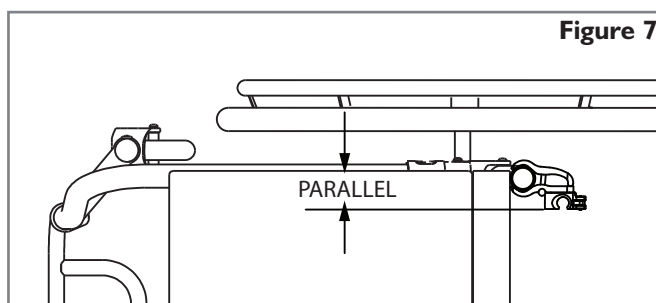

Figure 7
## ATTACHING FOUR POINT HARDWARE (OPTIONAL) (FIG. 7, 8, 9)
1. Loosen the clamp screws (A) with the supplied 4mm hex key and slip the clamps around the Back Canes (B).
2. The mounting hardware should be at equal heights on each back post (Fig. 8) and parallel to the seat frame (Fig. 7).
3. Hand tighten clamp screws (A). Loosen bracket nuts (C) and Mounting Pin bolts (F) using the supplied 10mm box-end wrench until hardware can move easily in all directions
4. Attach the Union Back by inserting left and right Mounting Pins (D) in the left and right Latch Receivers (E).
6. Tighten bolts on the inside of the Mounting Pin (F). Torque to 100 - 110 in-lbs.(11.3 - 12.4 Nm).
7. Tighten bracket nuts (C). Torque to 75 - 85 in-lbs. (8.5 - 9.3 Nm).
8. Test back release by pressing the release levers (L) forward and removing the back off the chair. Proper alignment of the mounting hardware and back is achieved when smooth attachment and release can be easily done.